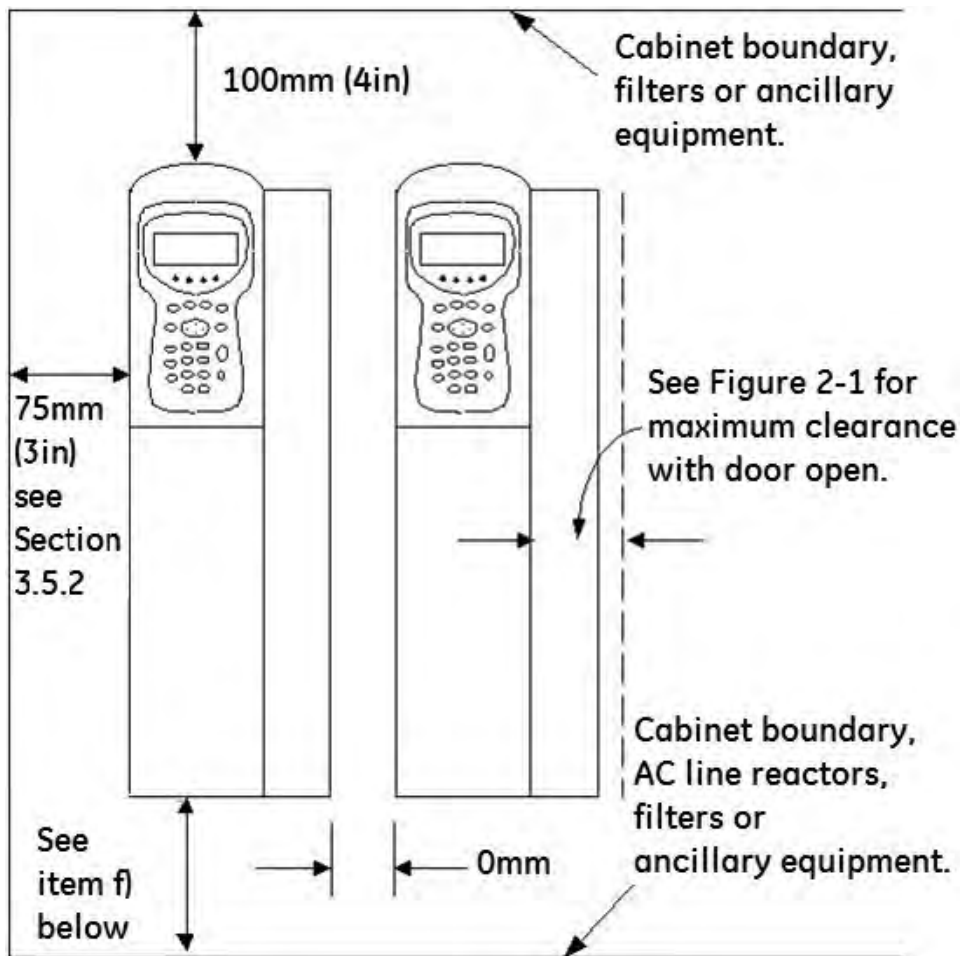

Figure 3-5. – Minimum Recommended Clearances
- The position of mounting studs/bolts for all converter frame sizes are shown in Figure 3-5 and Table 3-1. If “dirty air” ventilation is to be used with cabinet mounting, allow space for ducting cut-outs in the panel, above and below the converter.